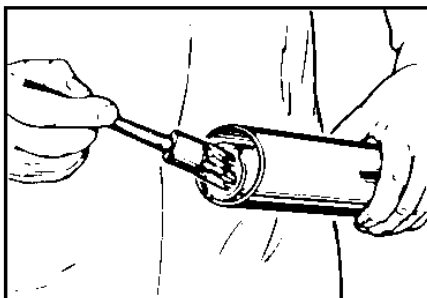

Fig. 21: Grease the profile tube
9. Grease the profile tube (see Fig. 21).